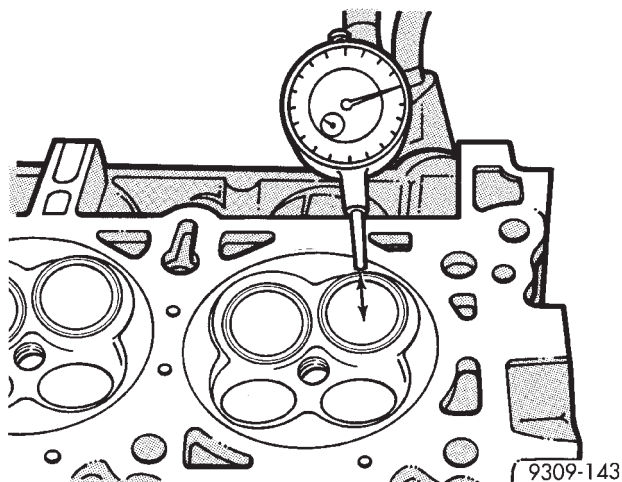

Fig. 112 Measuring Valve Guide Wear
- (1) Measure valve stem-to-guide clearance as follows:
- (2) Install valve into cylinder head so it is 15 mm (0.590 inch.) off the valve seat. A small piece of hose may be used to hold valve in place.
- (3) Attach dial indicator Tool C-3339 to cylinder head and set it at right angle of valve stem being measured (Fig. 112).
- (4) Move valve to and from the indicator. Refer to Valve Guide Specification Chart.